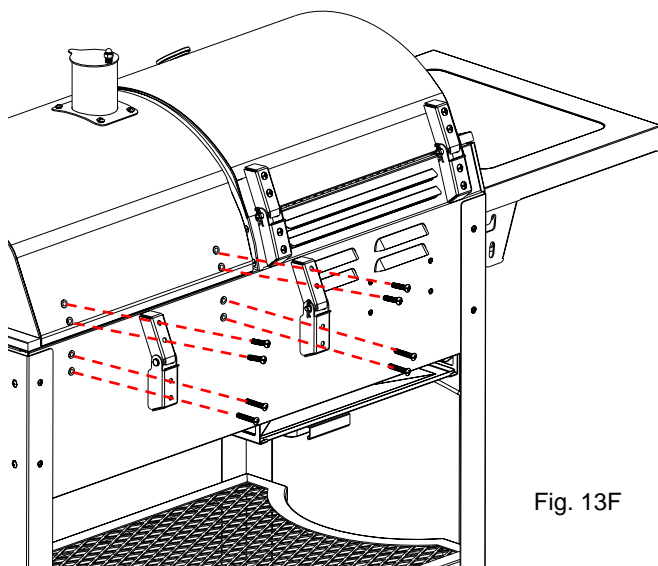

Fig. 13F
Refer to Fig. 13F, attach Charcoal Grill Cabinet and Lid with Hinge Assemblies using (8) M6\*35 Bolts as shown.